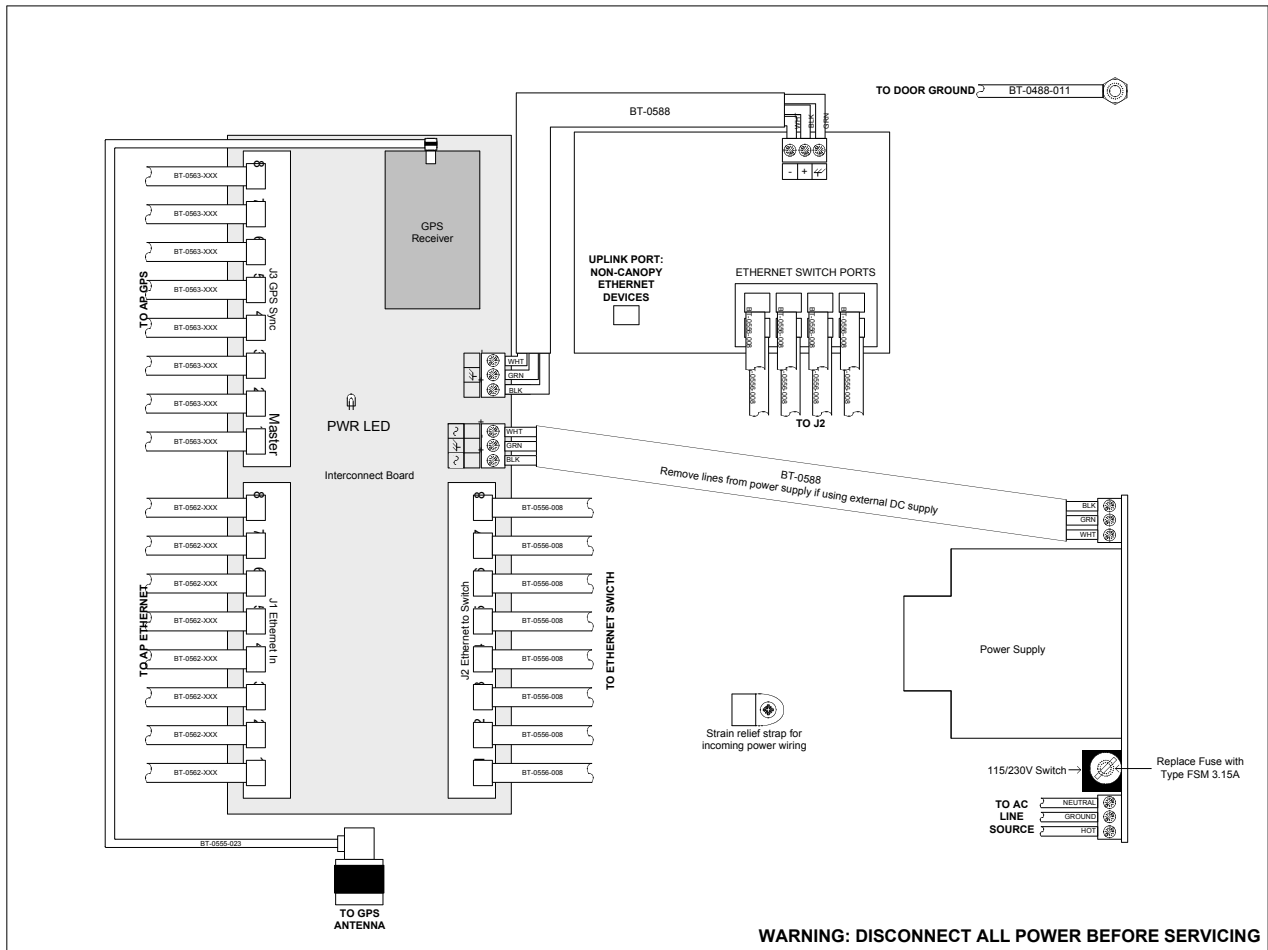

Figure 130: Layout of logical connections in CMM2
The logical connections in the CMM2 are displayed in Figure 130.
15. Connect AC or DC power to the CMM2, consistent with Figure 130 on Page 340.